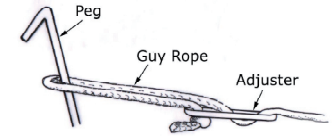

Figure 2
10. Unravel the guy ropes and loosely peg out each one ensuring that they are all pegged directly in line with the seam or pole to which they will apply tension and support. Once this is achieved tighten the adjusters so that equal tension is applied to each guy point (see figure 2).